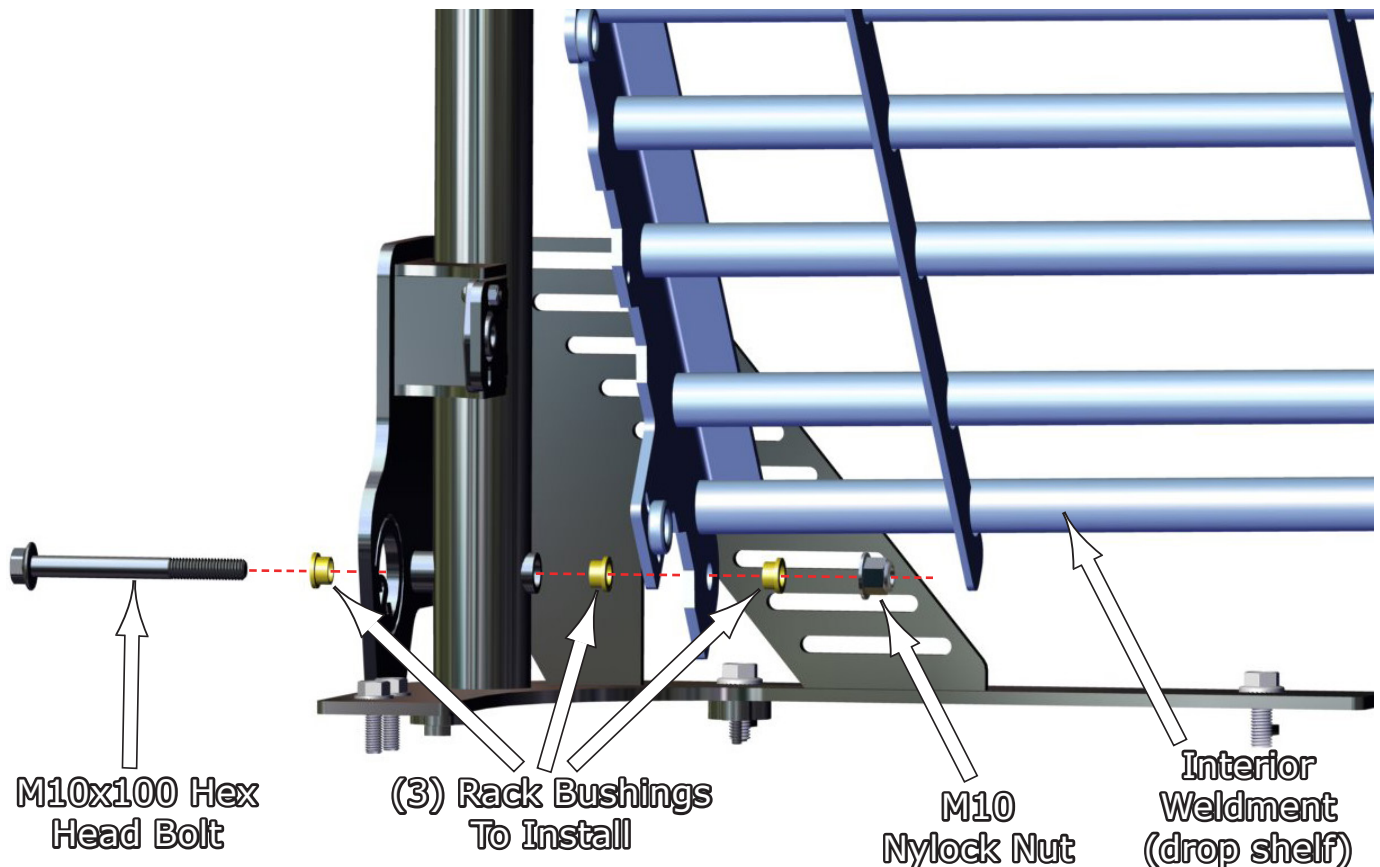

Fig.11
11. Now that both sides of the **Outer Frame** are in place, you will now install the Interior Weldment or drop shelf. You will install it using the **M10x100 Hex Head bolts**, three (3) **Rack Bushings** and the **M10 Nylock Nuts** provided in your kit. **Fig.11** shows the placement of each component stacked in order so you will install these in the correct manor.